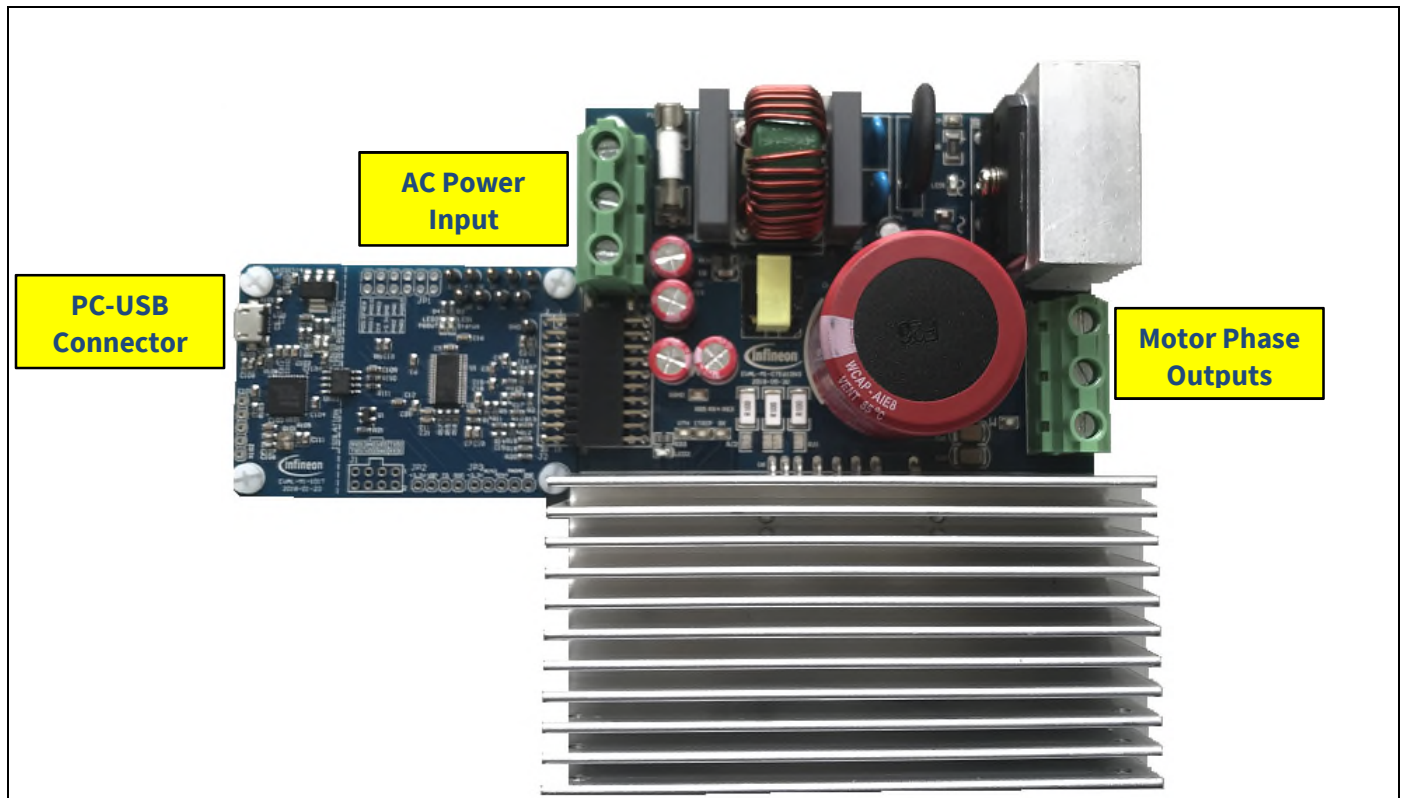

Figure 4 System connection example using EVAL-M1-CTE610N3 and EVAL-M1-101T
Figure 4 shows the system connection using EVAL-M1-CTE610N3 and control board (used control board EVAL-M1-101T for example).
2. Connect EVAL-M1-CTE610N3's MADK M1 20-pin interface connector (J2) to control board (see Figure 4).